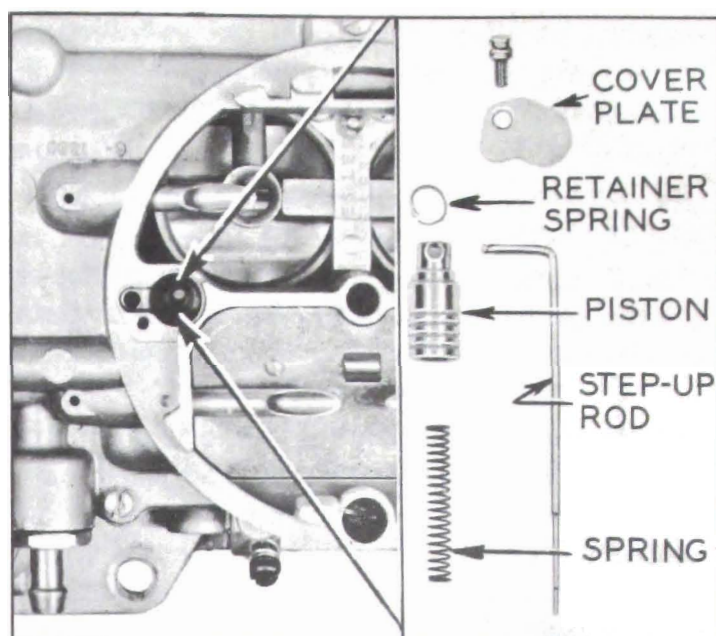

Figure 3-49—Step-Up Rod and Related Parts
3. Remove screws holding two step-up piston cover plates to air horn. Remove cover plates and remove each step-up piston, rod, and rod retainer spring as an assembly. Then remove two step-up piston springs. See figure 3-49.